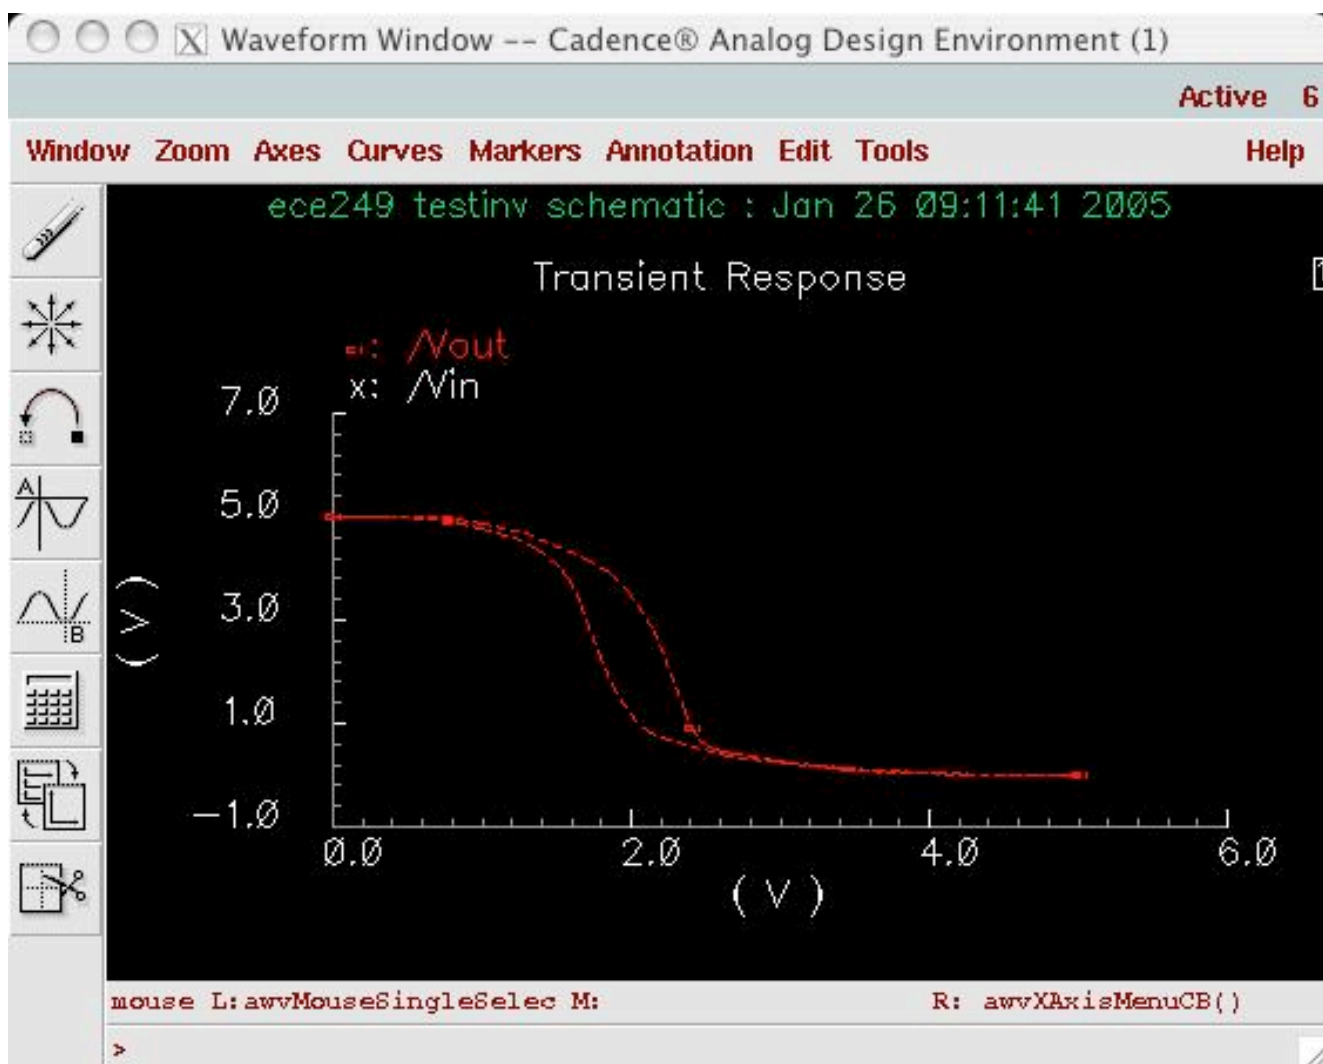

Fig. 23. Output voltage vs input voltage for a CMOS inverter.
**Step 14:** In the *Waveform Window*, go to *Axes... → Xaxis* and change *Plot vs independent variable* to *Plot vs 1/Vin*, like Fig. 22, and click **OK**. The final plot should look like Fig. 23.